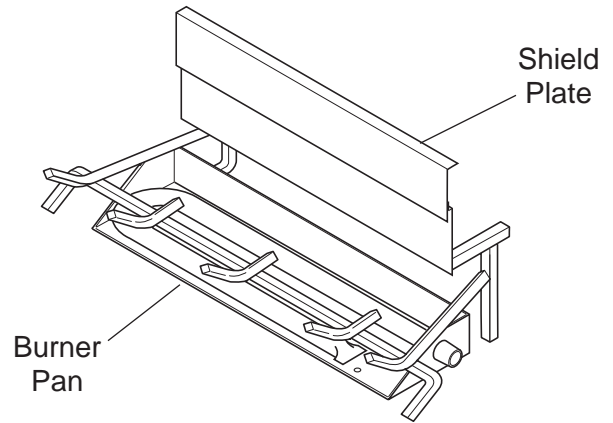

Figure 18 - Sliding Shield Plate Down Back of Burner Pan
1. Slide shield plate down back of burner pan. See *Figure 18*.